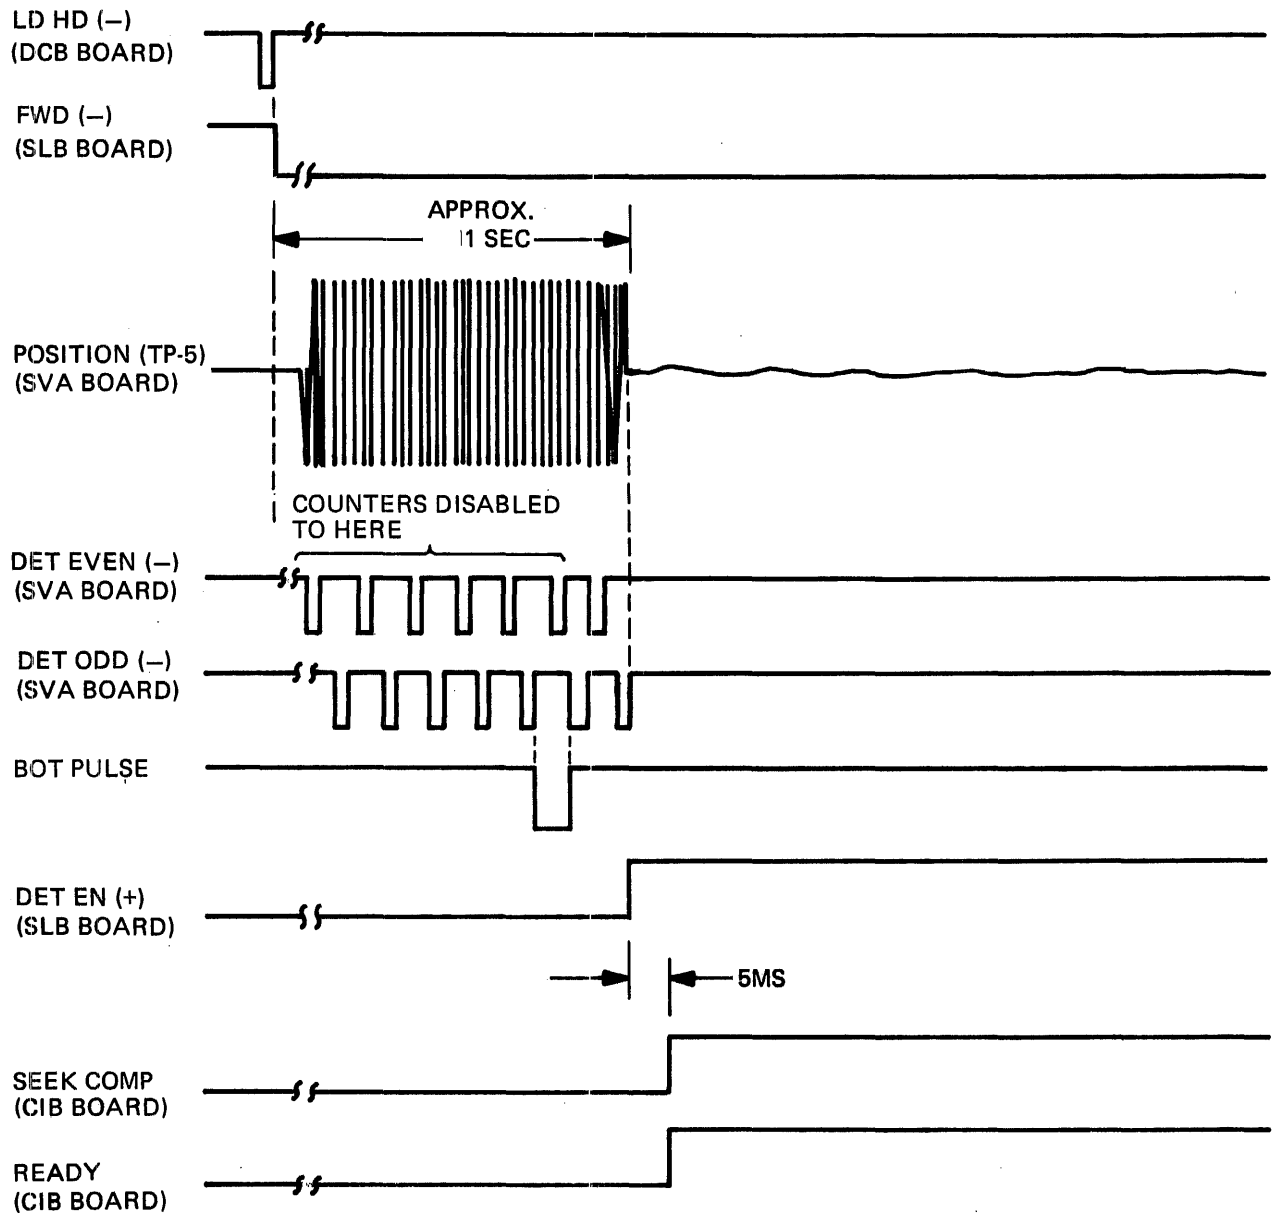

Figure 4-23. Initial Address Seek Operation Waveforms
4.5.7.2 Drive Control Signal Generation. This operational cycle is initiated by signals generated on the Servo Logic Board (SLB) as described in the circuit analysis of that board. Figure 4-23 is a timing diagram showing the sequence of events occurring during the initial Track 000 Seek operation with the abbreviations of the source of each input. The FWD signal from the SLB is inverted and used to ground an FET used as an electronic switch. The positive current is amplified and applied to a comparator which enables either the FWD driver or the REV driver depending on the direction in which the positioner is to move. The SERVO AMPLIFIER OUTPUT signal then is routed to the power amplifier on the Power Regulator Board (PRB) through the harness assembly, and is used as a drive control signal to actuate the positioner. The COARSE SERVO ENABLE input from the SLB also grounds the gate of an FET, and the carriage (and heads) begins to move. The FET's on the SVA set up signal paths for direction of positioner travel and associated drive signal control functions. A notch filler with an emitter follower output is used to eliminate mechanical resonances.